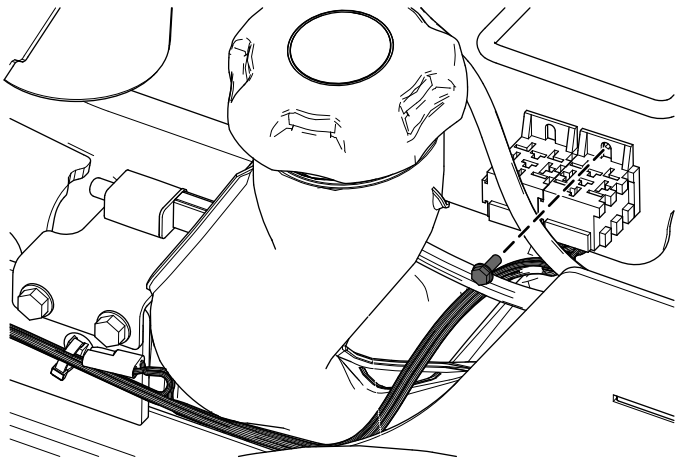

Figure 14
- Secure the wire harness near the relays using the tap-tite screw (Figure 14).